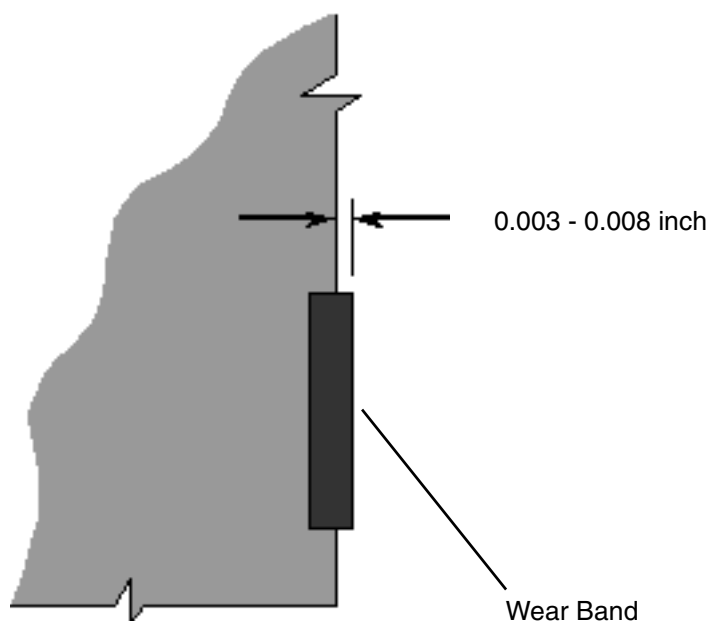

Figure 4-26. Wear Band Protrusion Dimensions (0.003-0.008 inch)
The wear band is designed to protrude 0.003-0.008 inches out from the matching machined surface (see Figure 4-26). Wear bands extend piston and piston seal life by eliminating metal-to-metal contact between the piston and lower housing.
2. Ensure that the wear band protrudes 0.003-0.008 inches from the surface (see Figure 4-26). Measure the protrusion for accuracy using a straightedge and a feeler gauge.
- ❑ Mill or sand the wear band to allow a protrusion of 0.003-0.008 inches from the surface (see Figure 4-26 on page 4-35).